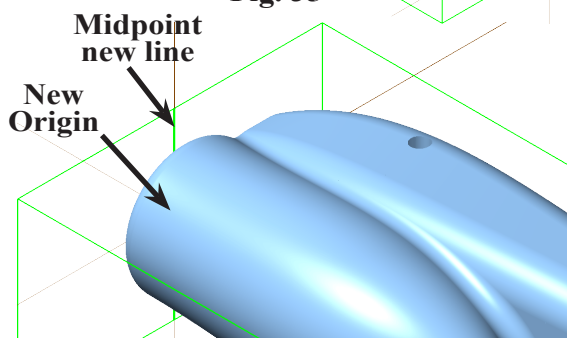

Fig. 36
Step 6. Click **copied rear line**, **Fig. 36.**